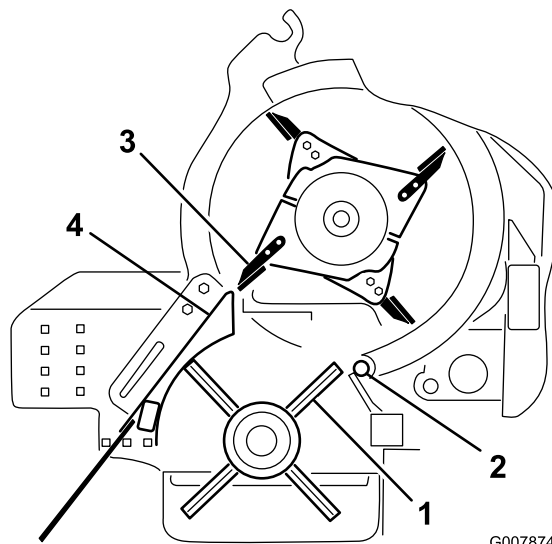

Figure 58
4. Rotate the brush pulley until a brush row is aligned with the rotating corner (Figure 58).
5. Rotate the chopper until a blade tip is aligned with the outside of the brush housing (Figure 58).